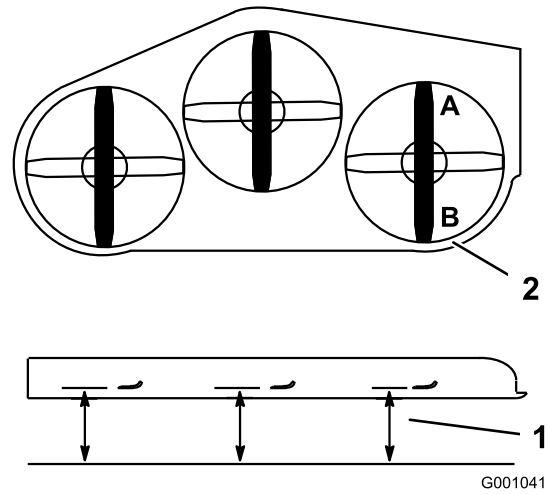

**Figure 83**
2. Locate the U-plates on the side of the engine deck (Figure 83).
3. Loosen the U-plate on one side and adjust it up or down to make the difference between measurements **B** and **C** no more than a 1/4 inch (6 mm) (Figure 83).